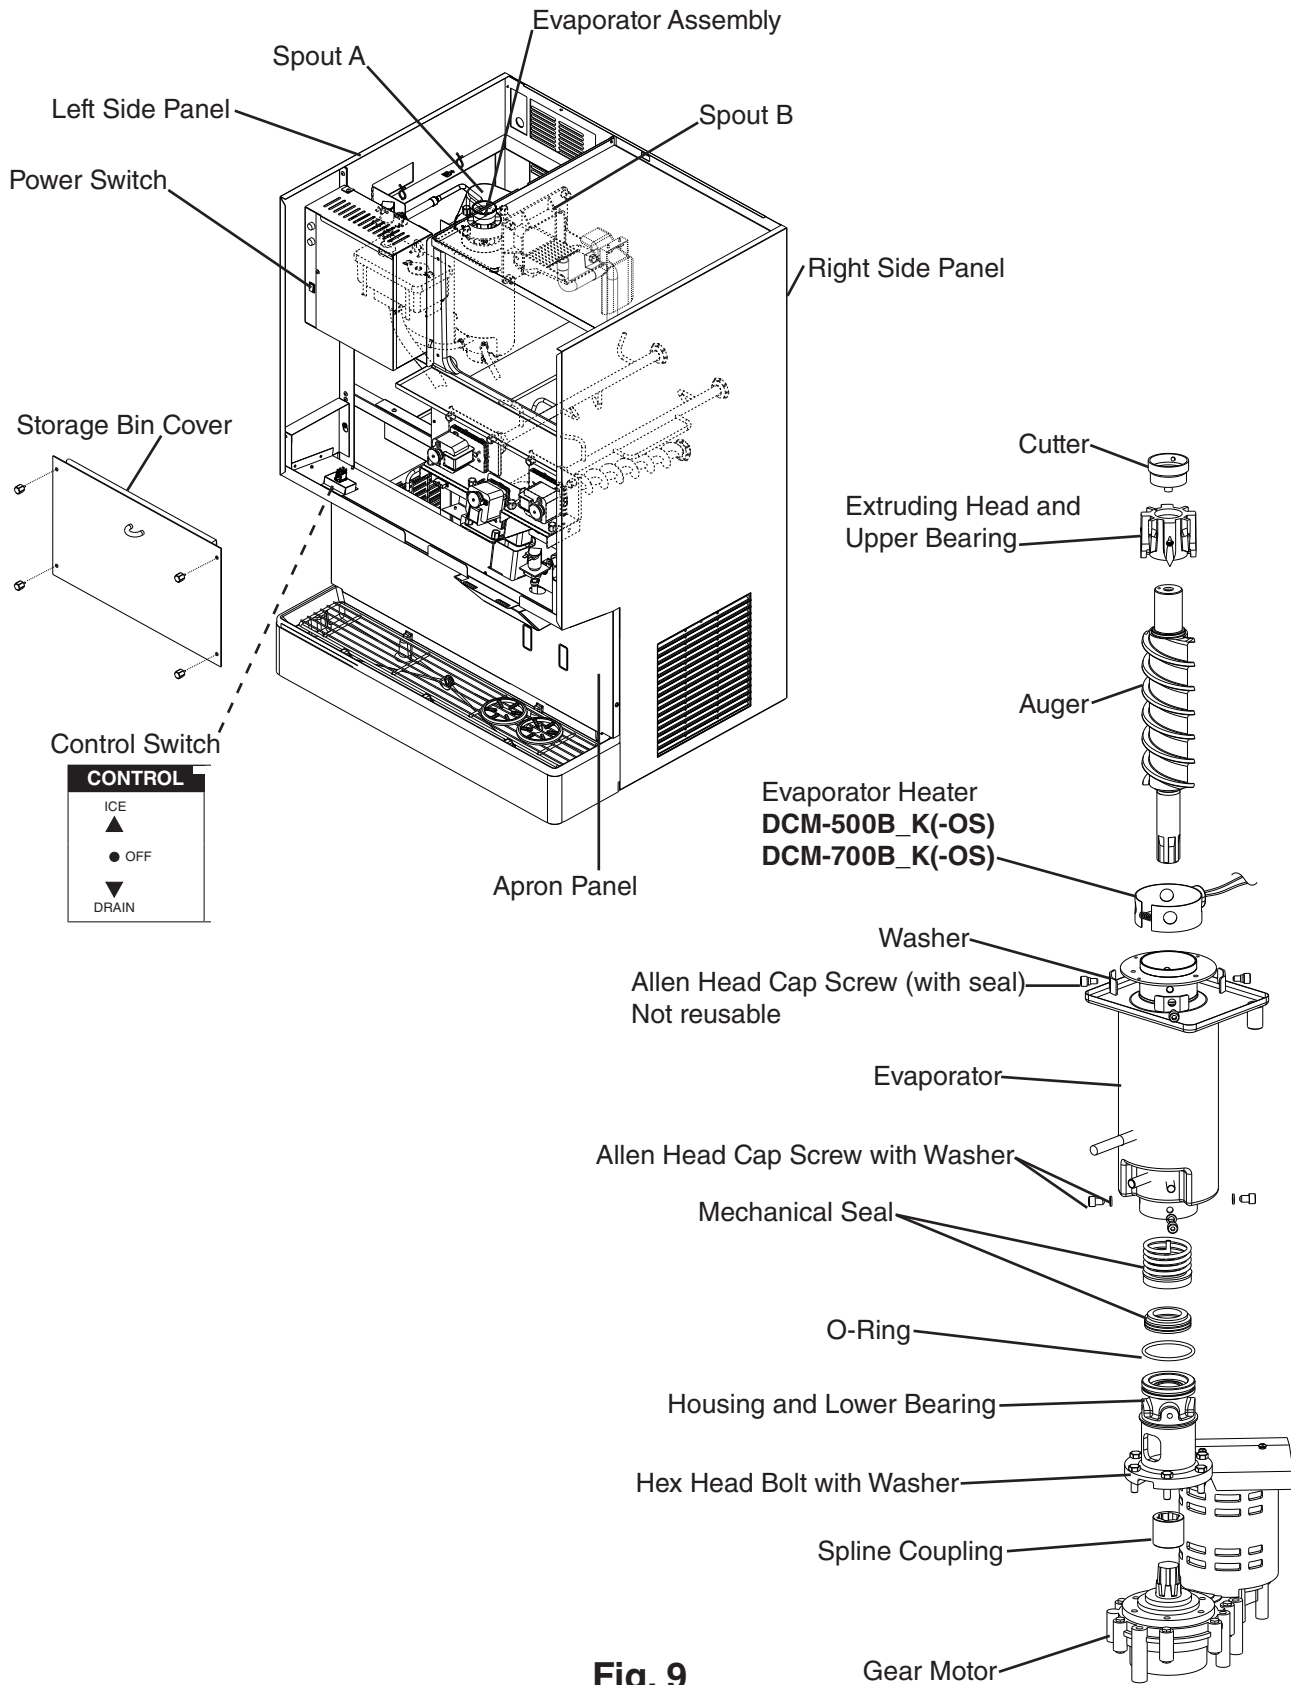

Fig. 9
- 2) Remove the storage bin cover. Remove spout B, then remove spout A and the cutter. See Fig. 9.
- 3) Remove the storage bin cover. Remove spout B, then remove spout A and the cutter. See Fig. 9. Remove the apron panel, then remove the left side panel.
- 3) Remove the storage bin cover. Remove spout B, then remove spout A. See Fig. 9. Remove the apron panel, then remove the left side panel.